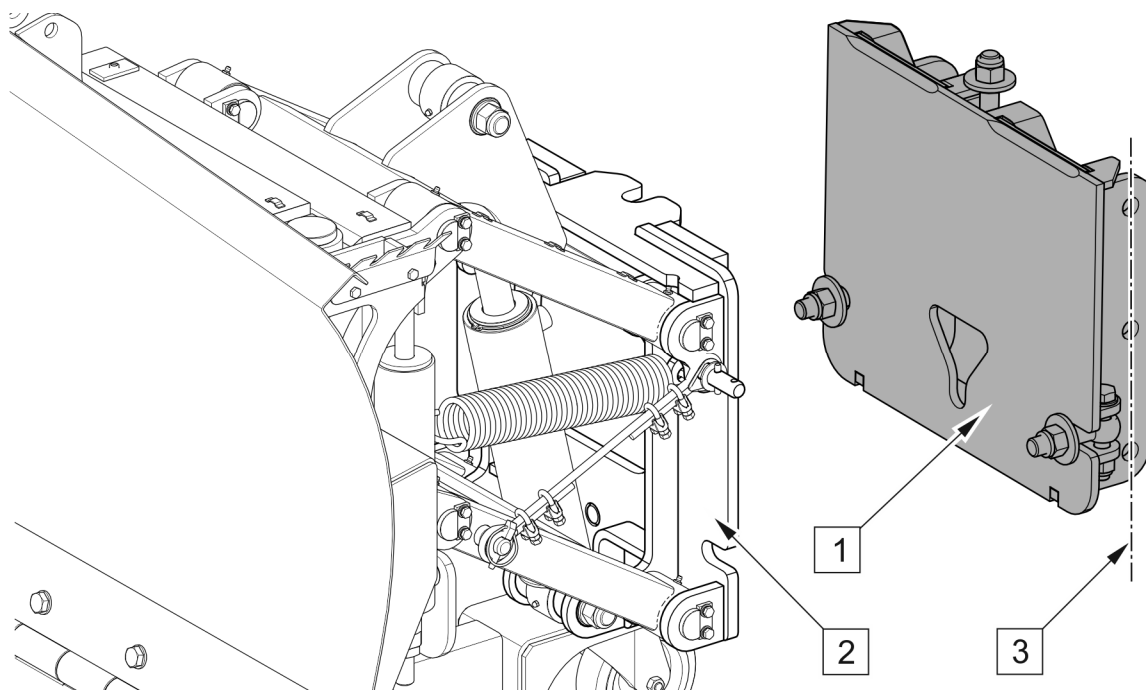

FIG. 4.1 Fixing elements of the linkage
A special attachment plate (FIG. 4.1) is required to connect the machine to the carrier. It is mounted on the right side between the axles of the carrier. The connection plate should be mounted so that the plane of the mounting holes (3) is vertical.